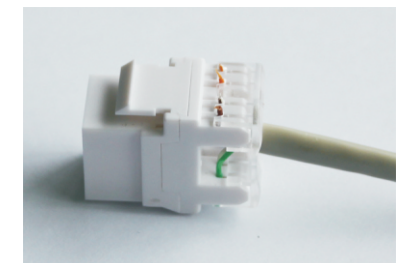

Figure 8- IDC cap with cable inside
4. Snap in the IDC cap to set the wires in place, and complete the installation. (Figure 8)